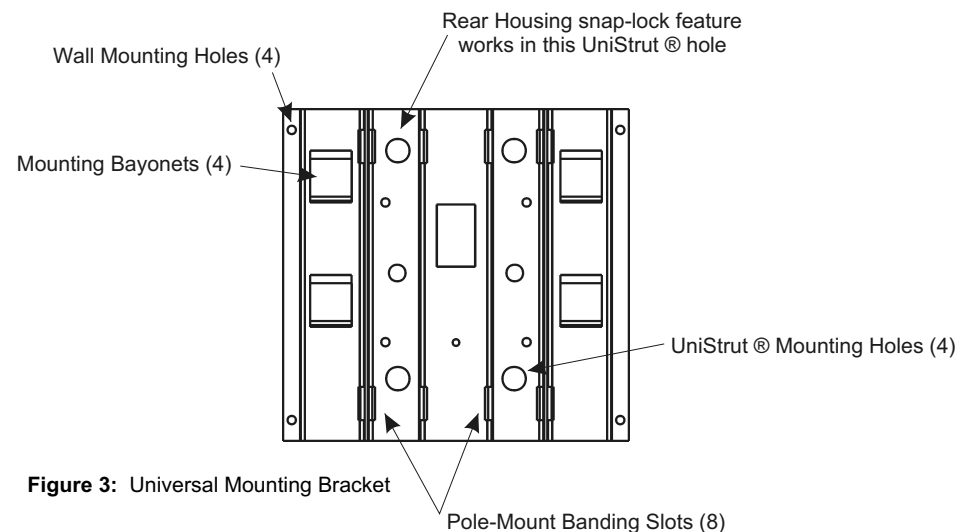

Figure 3: Universal Mounting Bracket
Note: Before installation, choose a location that allows adequate clearance to slide the housing downward onto the Mounting Bracket (minimum 2" above top edge of Bracket--see also Figures 3 & 4).
- 1. Wall mounting:** Install Mounting Bracket in desired location, using four 30-lb.-minimum-pullout-rated fasteners (see Fig. 3).
a. After the Mounting Bracket is in place and the conduit is near, slide the enclosure downward onto the Mounting Bayonets (See Figures 3 & 4). The enclosure will be in place when the snap-lock feature is engaged in the hole in the Mounting Bracket.